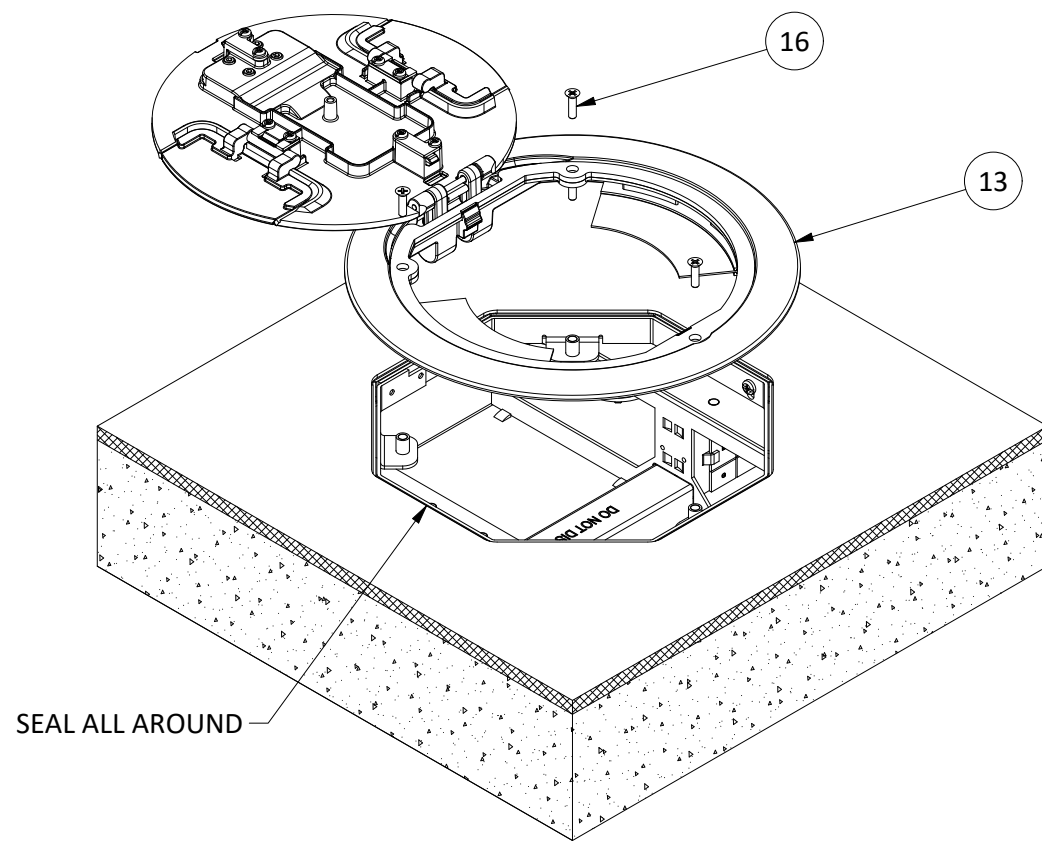

FIGURE 5
21. Seal the gap around the cover support collar [12] with a continuous bead of electrical grade type RTV silicone sealant (SEE FIGURE 5).